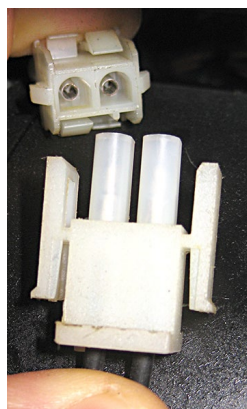

Figure 29
34. Reconnect 2-pin connector removed in step 9 (see Figure 29).